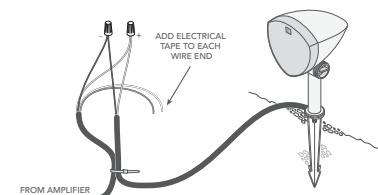

Figure 4
- Starting at the speaker furthest from the amplifier, strip 3/4" of insulation on the cut end of the burial wires for the appropriate amp channel according to the tables below, then strip insulation from the ends of the corresponding speaker's pigtail. Wrap any unused wires in electrical tape to protect them from moisture and short-circuiting (see Figure 4).
- Connect the burial cable to the speaker pigtail using a wire tie (see Figure 4).